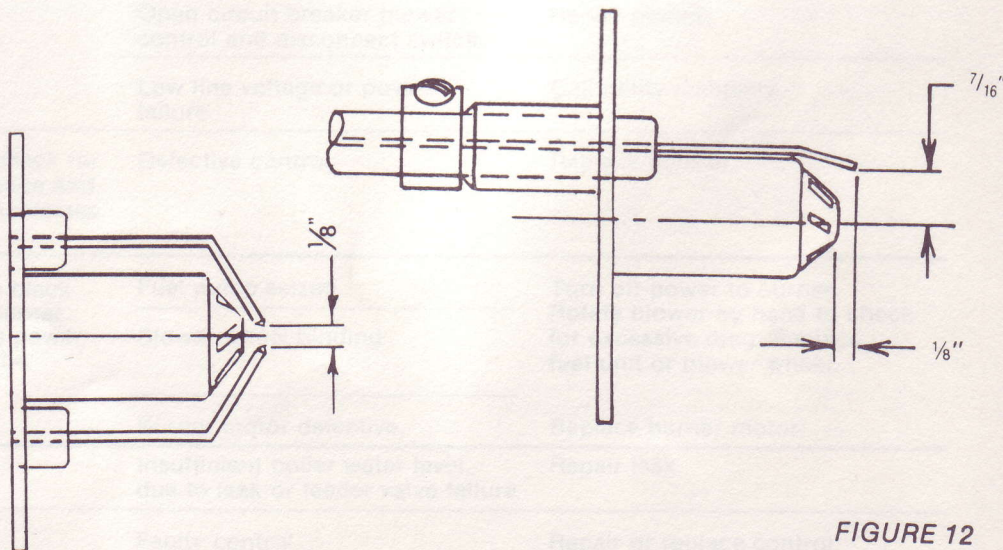

FIGURE 12
1. Remove the combustion head assembly. Clean the nozzle line and adaptor without wiping dirt over the nozzle orifice. Clean and dress the electrodes and dress the air metering plate. Check the electrode settings and set as shown in Figure 12.
Dress and reset the electrodes to the specs. on Fig. 12.